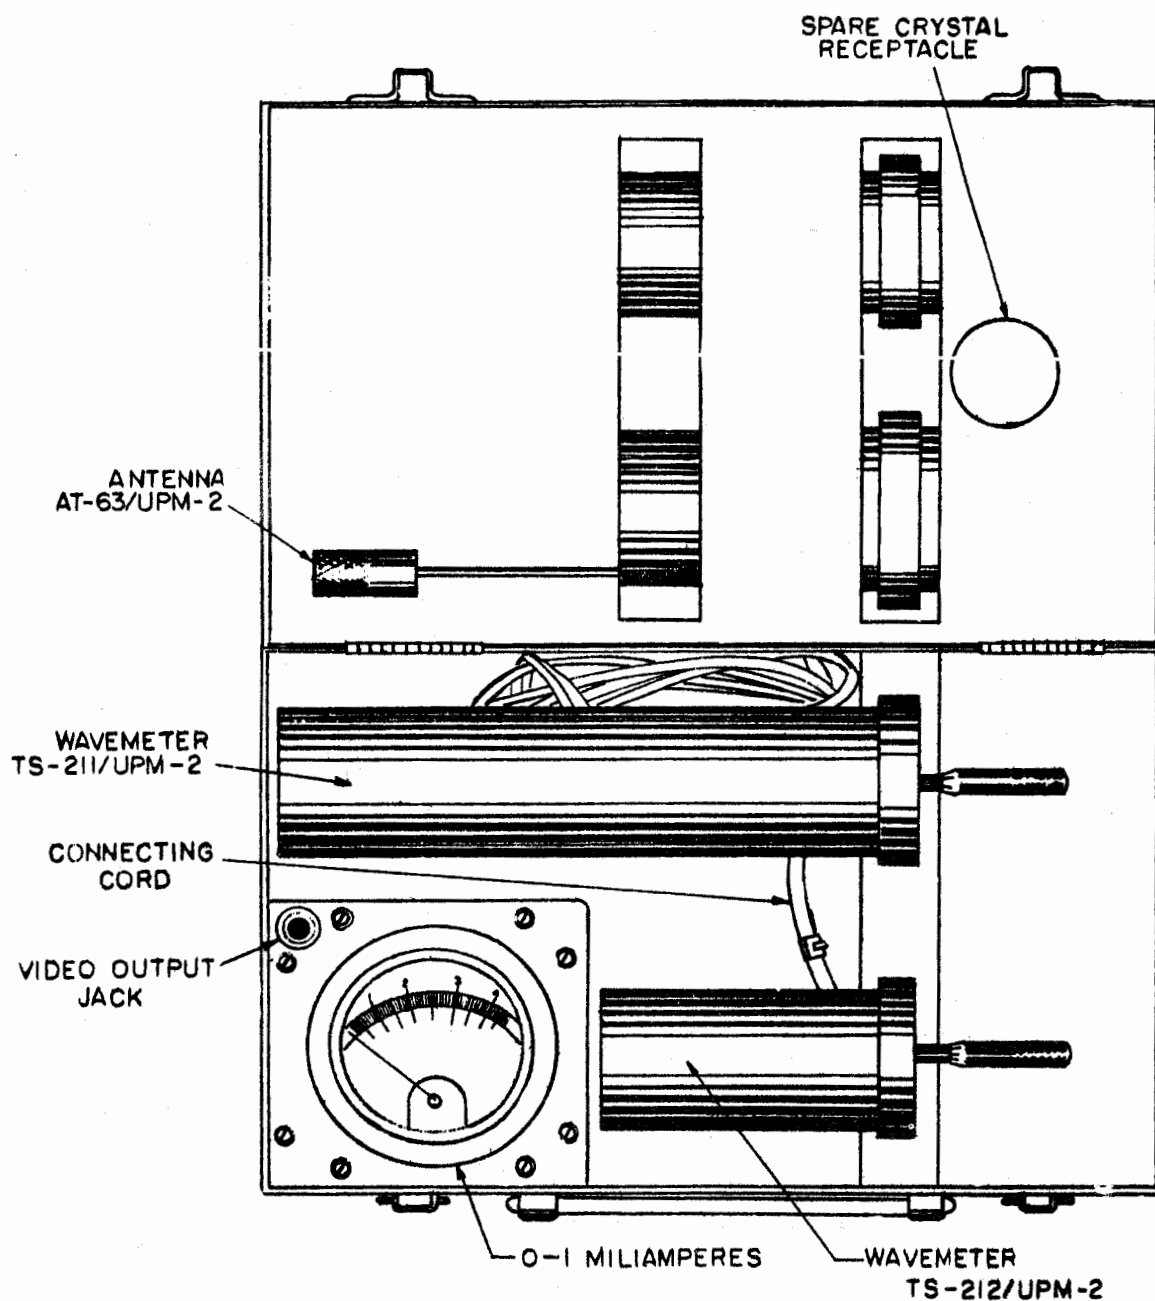

Figure 4-20. Wavemeter Test Set
a. GENERAL DESCRIPTION.— Wavemeter test sets (Figure 4-20) are test and monitoring instruments. They are suitable for use with a wide range of Navy equipments operating in specified frequency ranges. Wavemeter Test Set AN/UPM-2 consists of two absorption type wavemeters covering the frequency ranges of 80 to 360 megacycles (TS-211/UPM-2) and 330 to 1220 megacycles